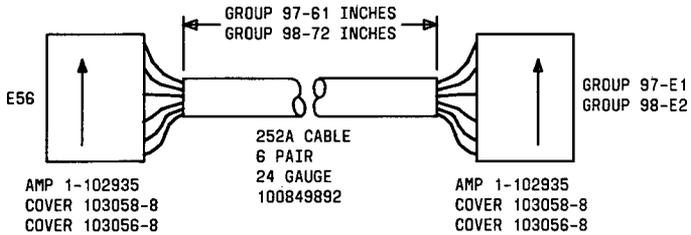

Figure 40. ED-1E434, Group 97 and 98 Cable
Install the ED-1E434, Group 97 cable(s) (Figure 40) from E56 on the module control (00) backplane to connector E1 on the ZAEY1 circuit pack (ED-1E469, Group 2 Extended MAAP Bracket) for each remote module as shown in Table T.
Install the ED-1E434, Group 98 cable(s) (Figure 40) from E56 on the module control (01) backplane to connector E2 on the ZAEY1 circuit pack (ED-1E469, Group 2 Extended MAAP Bracket) for each remote module as shown in Table U. This cable is not required for an unduplicated system.